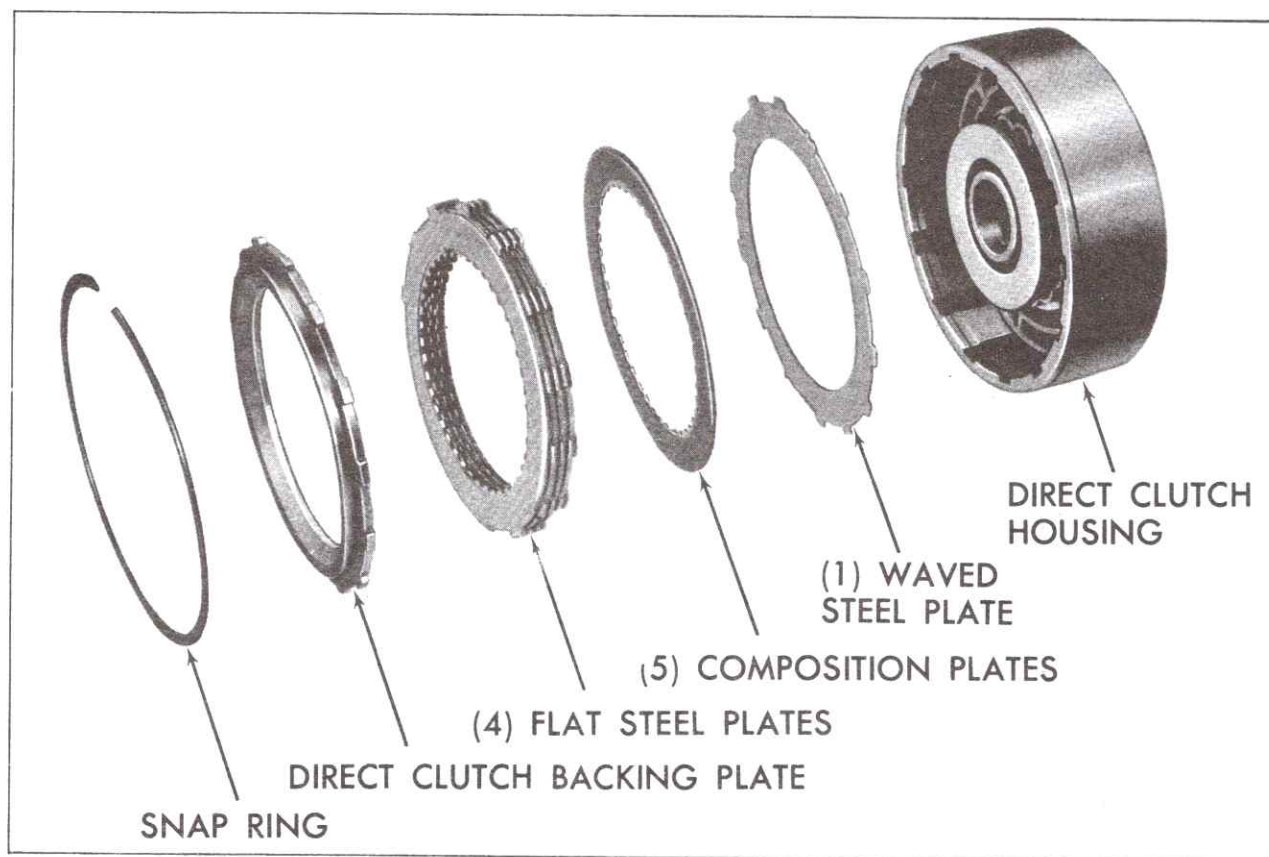

Fig. 7-68 Direct Clutch Disassembled
4. Remove direct clutch backing plate and five composition and five steel clutch plates, Fig. 7-68.